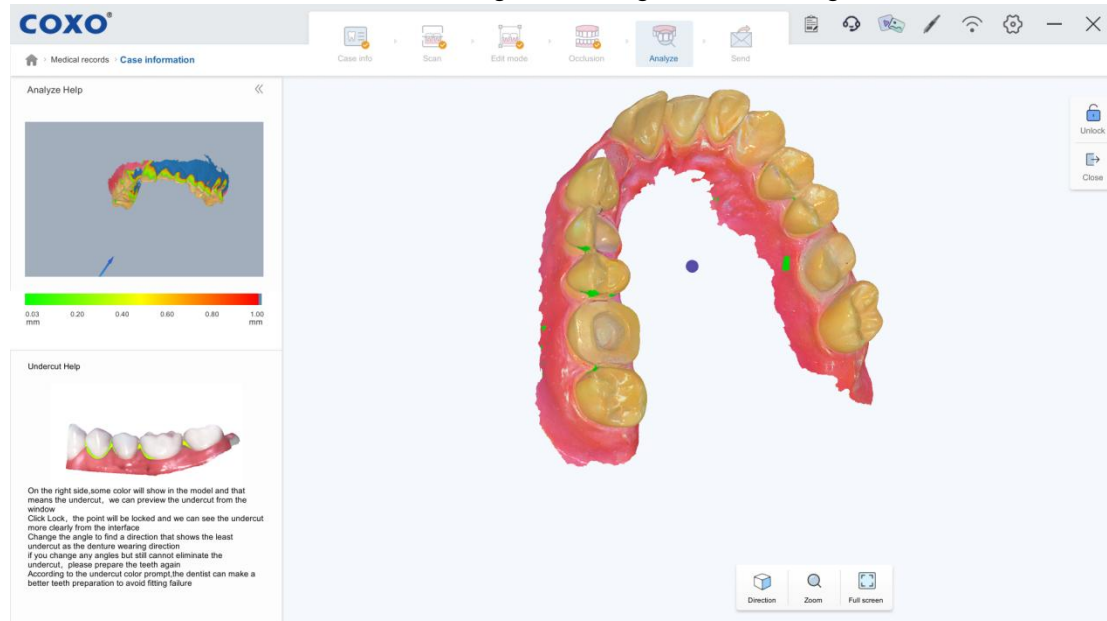
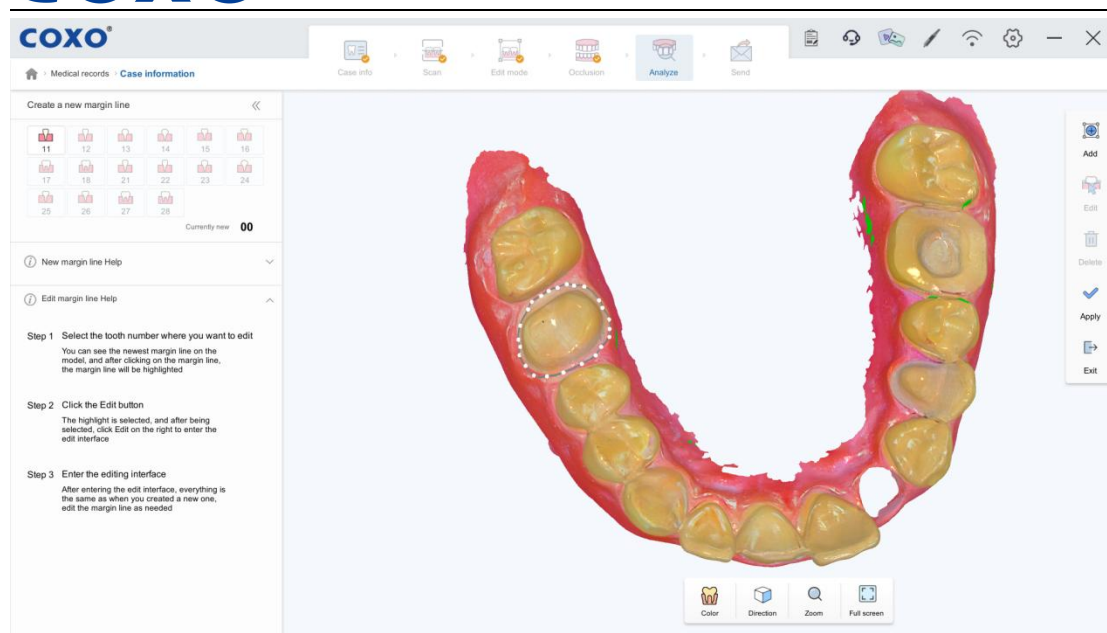
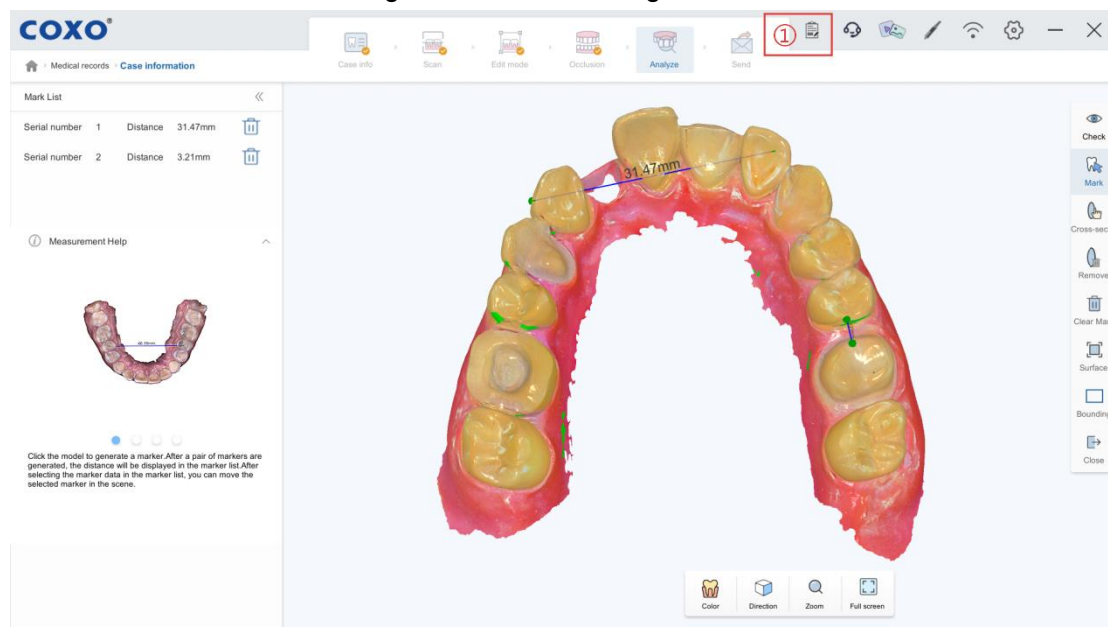

Fig. 4-18-1 Check the undercut
Fig. 4-18-2 Draw margin lines
Fig. 4-18-3 Measurement Interface
Click the "Analyze" icon on the top navigation bar to enter the analyze page, in which page the user can check the undercut of the model and draw margin lines and measure distances on the model, as shown in Fig. 4-18-1, Fig. 4-18-2 and Fig. 4-18-3.
- After scanning and post-processing are completed, click the “Report” icon as shown in Fig.4-18-3 item ① to generate a Intraoral scanner AI report. The doctor can fill in medical comments and revise the auto-generated content. Finally, the report can be saved, exported, attached to an order, or directly delivered to the patient.